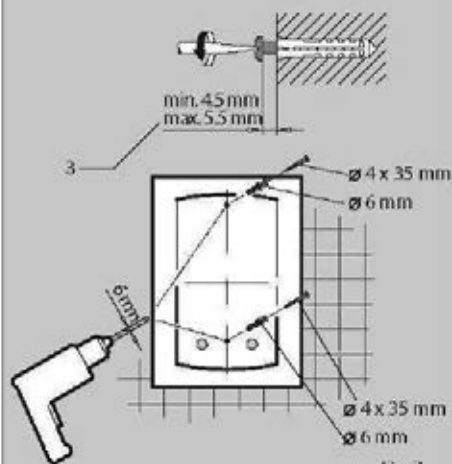

Fig 7
| <ol style="list-style-type: none">1. Upper mounting hole2. Lower mounting hole3. Depth for mounting screw (Fig 7#3)4. Distance of the connection cable (Fig 6#4)5. Thermostat6. Cable entry with seal | <ol style="list-style-type: none">7. Electrical connection8. ELCB (option)9. Plug connecting the circuit board to the cover10. Reed switch11. ELCB Test (option)12. ELCB Reset (option) | <ol style="list-style-type: none">13. Cold water connection14. Hot water connection15. Flow Limiter16. Circuit board cover17. Cover |
- Place a drilling guide at the drilling position in order to drill a hole in the wall (Fig 7).
- Insert a wall plug and screw in (the depth of the protruding screw head must be correct) (Fig 7#3).